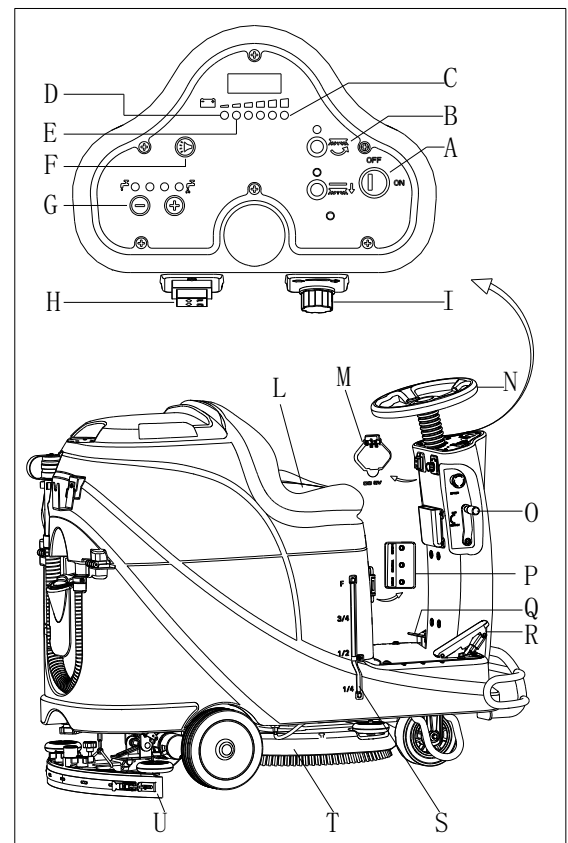

Figure 10
2. Sit on the seat (L, Figure 10), insert the key switch (A) and turn it to "ON". If the green light (C) is on, the batteries are fully charged for use. If the yellow light (E) or red light (D) is on, batteries must be charged before operation. [Refer to MAINTAINENCE chapters for batteries charging]
11. Loosen the accelerate pedal (R, Figure 10), the machine stops running.
12. Press brush button (B) to stop brush motor.
13. Lift brush assembly (T) by depressing the pedal (Q).
14. Lift squeegee assembly (U) by squeegee lifting/lowering lever (O), and a few seconds later the vacuum system will be closed.